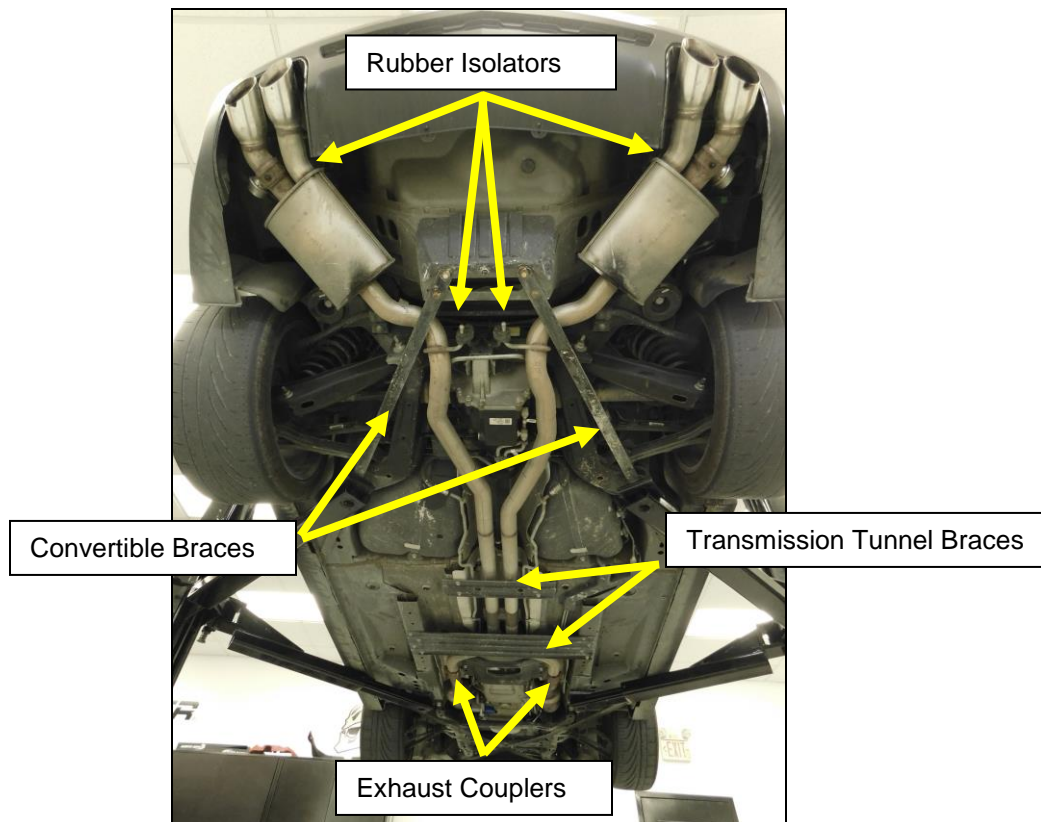

Figure 1
5. **For convertible vehicles only** - Remove the (x2) support braces at the rear of the car and large transmission tunnel brace in the center of the car (**Figure 1**).
6. Support the exhaust system under the transmission. Loosen the 15mm nuts on the exhaust couplers, release the locking tab on the coupler, and slide the coupler back and off the locking tab (**Figure 1**).